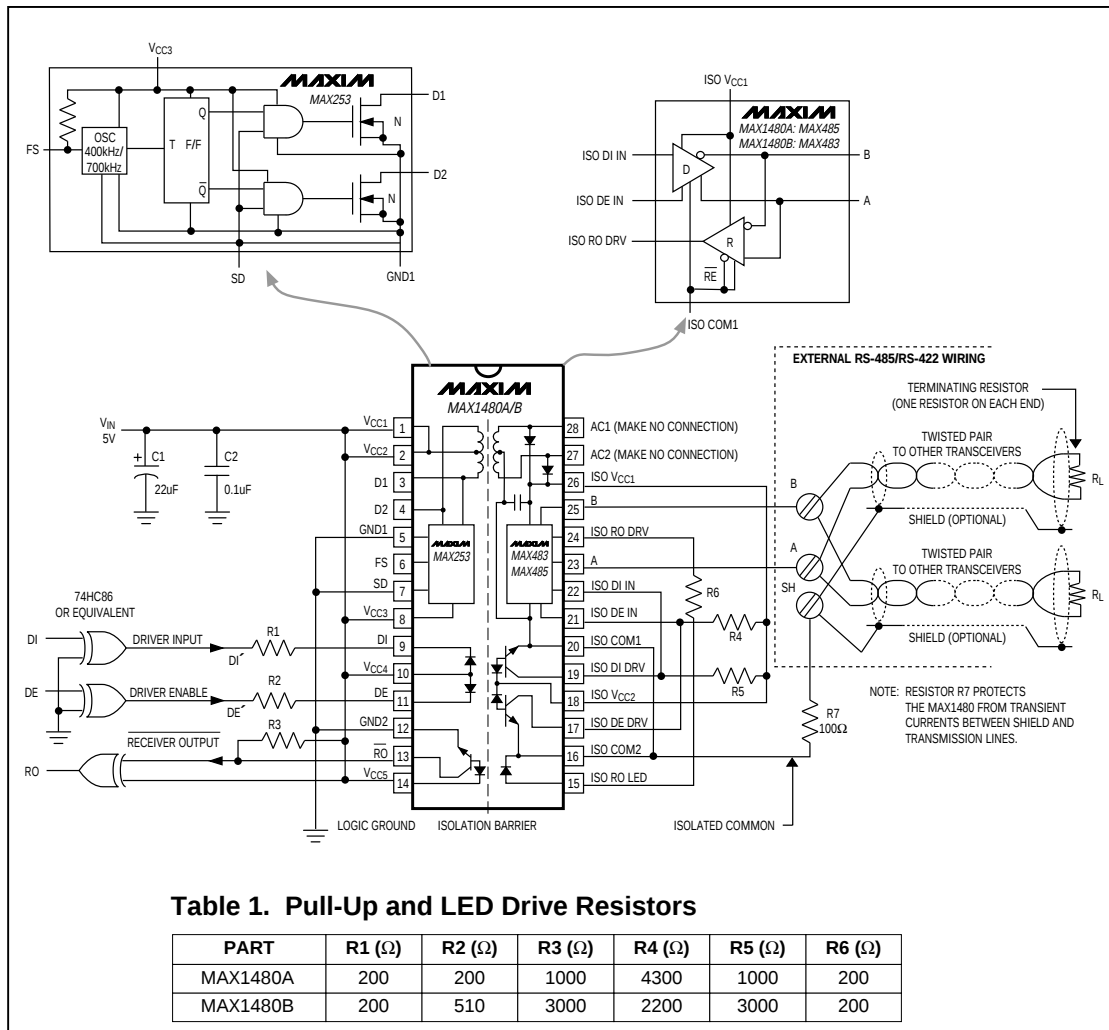
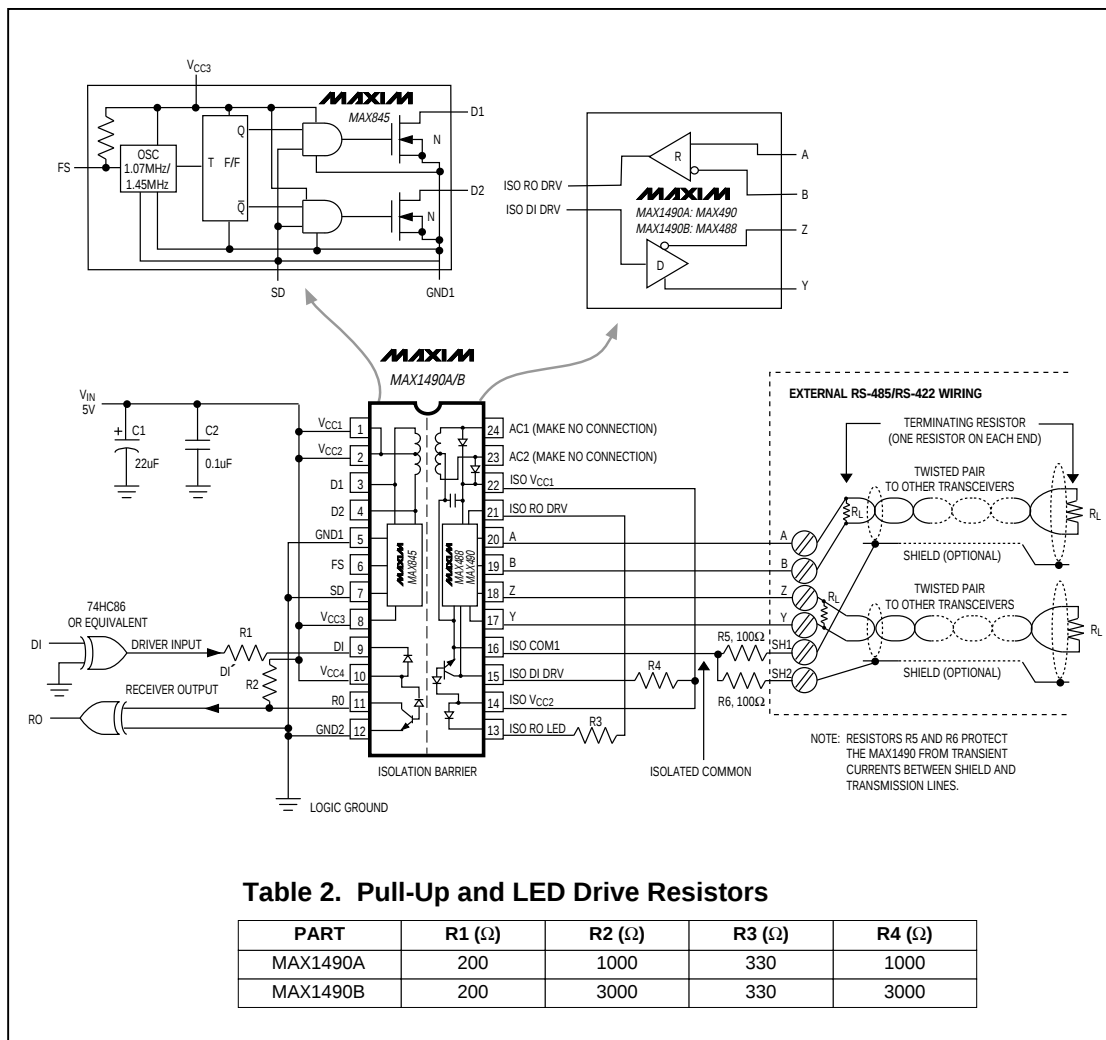

Figure 1. MAX1480A/MAX1480B Detailed Block Diagram and Typical Application Circuit
Figure 2. MAX1490A/MAX1490B Detailed Block Diagram and Typical Application Circuit
Note: For DE⁺ and DI⁺ pin descriptions, see *Detailed Block Diagram and Typical Application Circuit* (Figure 1 for MAX1480A/B, Figure 2 for MAX1490A/B).
The MAX1480A/MAX1480B/MAX1490A/MAX1490B are complete, electrically isolated, RS-485/RS-422 data-communications interface solutions. Transceivers, optocouplers, a power driver, and a transformer in one standard 28-pin DIP package (24-pin for the MAX1490A/B) provide a complete interface. Signals and power are internally transported across the isolation barrier (Figures 1, 2). Power is transferred from the logic side (non-isolated side) to the isolated side of the barrier through a center-tapped transformer. Signals cross the barrier through high-speed optocouplers. A single +5V supply on the logic side powers both sides of the interface. The MAX1480A/B offer half-duplex communications while the MAX1490A/B feature full-duplex communication. The functional input/output relationships are shown in Tables 3–6.
* For DE⁻ and DI⁻ pin descriptions, see *Detailed Block Diagram and Typical Application Circuit* (Figure 1 for MAX1480A/B, Figure 2 for MAX1490A/B).
The MAX1480A/MAX1480B/MAX1490A/MAX1490B are specified and characterized using the resistor values shown in Table 1 of Figure 1 and Table 2 of Figure 2. Altering the recommended values can degrade performance.
The isolated common may be completely floating with respect to the logic ground and the effective network ground. The receiver input resistors will cause the isolated common voltage to go to the mean voltage of the receiver inputs. If using shielded cable, tie the isolated common to the shield through a 100Ω resistor. In the case of the MAX1490, each shield should have its own 100Ω resistor (Figures 1, 2, 13, and 14).